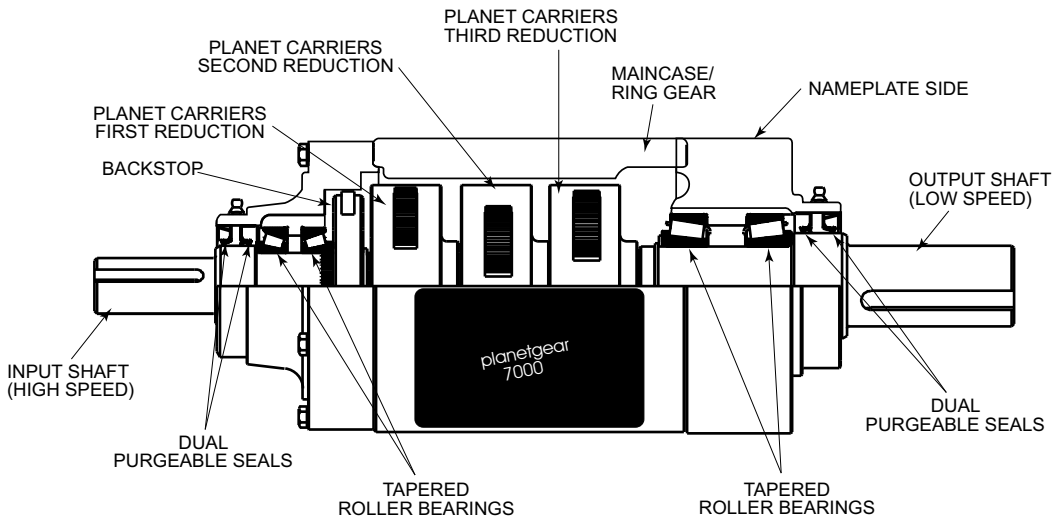

Figure 1.2 Sectional View of a Planetgear Speed Reducer
The Planetgear 7000 unit is a concentric shaft speed reducer that uses a simple planetary design, which utilizes a sun gear as the input, a ring gear as the fixed element, and a planetary carrier as the output. Power is transmitted from the reducer input shaft, through a splined connection to the input gear (sun gear) of the first reduction. The input gear drives the planet gears, which in turn drive the planetary carrier assembly. This carrier assembly is then connected to the next reduction sun gear or to the output shaft through a splined connection. Each carrier represents a single reduction. The reducer output shaft rotates in the same direction as the input shaft, regardless of the number of reductions. Reference **Figure 1.2** for a detailed representation.
1.2 SECTIONAL VIEW AND COMPONENT IDENTIFICATION Reference Figure 1.2